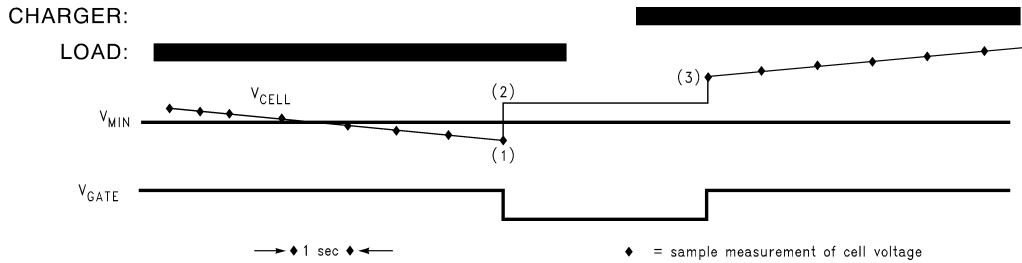

FIGURE 2. Normal Termination of Discharging
The cell voltage must go below  $V_{MIN}$  for 4 consecutive samples before the MOSFET pair is turned OFF (1), which is shown in *Figure 2*. Once the MOSFET pair is OFF and the current is interrupted, the voltage across the cell(s) will increase and the cell voltage could exceed  $V_{MIN}$  (2). The MOSFET pair remain off until a charger is applied to the pack (3). The presence of a charger turns the MOSFET pair ON. Deeply discharged cells will be charged, although for some narrow bands of  $V_{CELL}$ , the GATE may occasionally pulse OFF momentarily.